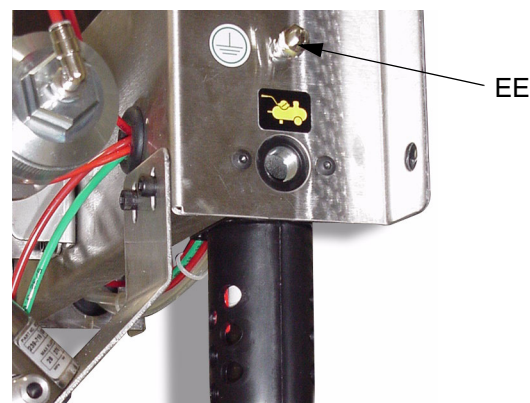

FIG. 23
Connect a ground wire from the Smart Fluid Panel ground lug (EE) to a true earth ground. FIG. 23.